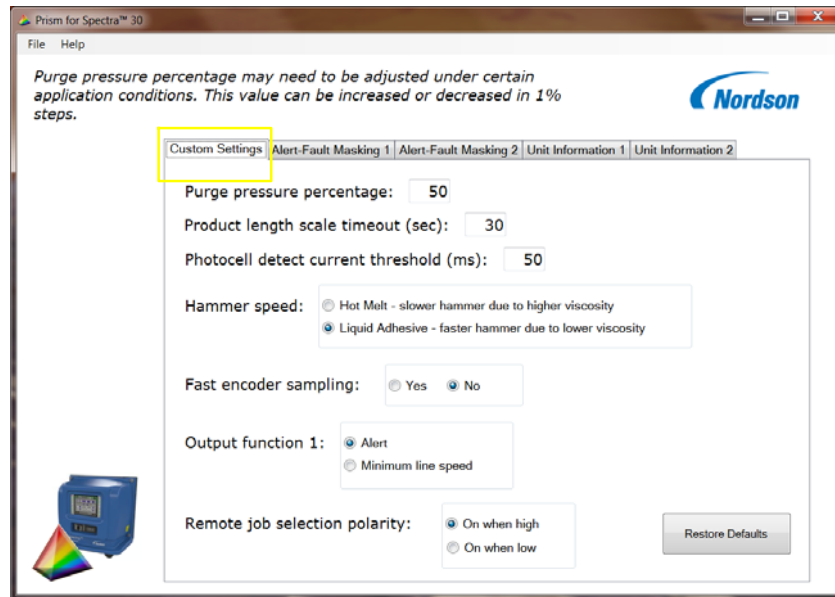

Figure B-1 Settings available in the Custom Settings tab
- Custom Settings tab, see Figure B-1